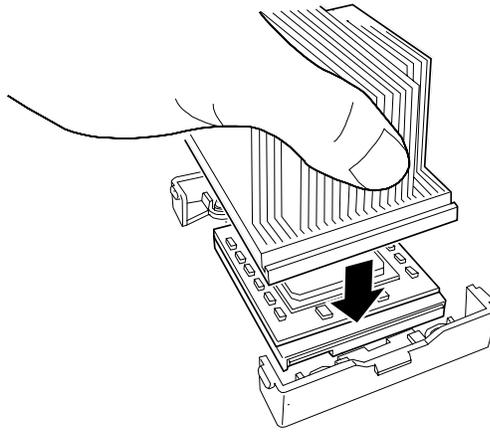

Figure 4-11. Installing the Heatsink
- 14.** Install the heat sink on CPU. See Figure 4-11.